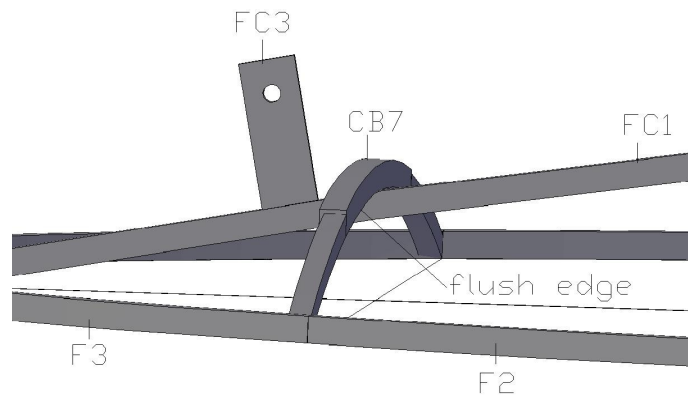

Fig. 55: CB7 aligning
**Step 7** Check if the Centrebar (FC1) is centred. Attach CB4 to FCcb by **SPOT WELDING** (Too much heat will distort the CB). See Fig.55.
**Step 9** Place CB7 on the Centrebar as shown in Fig.55. The flush edge of CB7 has to align with Line 7 on the template. See Fig.56. Continue in the same manner as for the previous CBs.